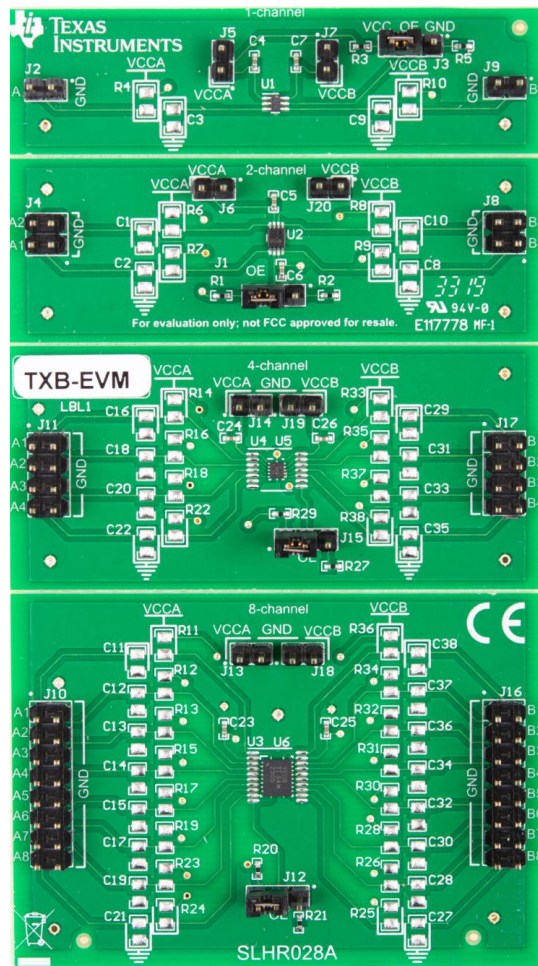

Figure 1. TXB-EVM
TXB-EVM is shown in Figure 1. Table 2 shows the packages supported by the TXB-EVM.
Each data I/O trace connects to an 0805 surface mount (SM) pad with access to V_{CC} for customizable pull-up resistors and a 0805 SM pad with access to GND for a customizable load. Large pads were chosen for ease of access and the option to compose a load out of multiple, smaller, SM components if desired (for load tests, propagation delay, rise/fall time adjustments, etc.). Figure 1 shows the SM pad locations. Pull down pads are marked with a ground symbol, pull up pads are marked with a power port symbol on the board.